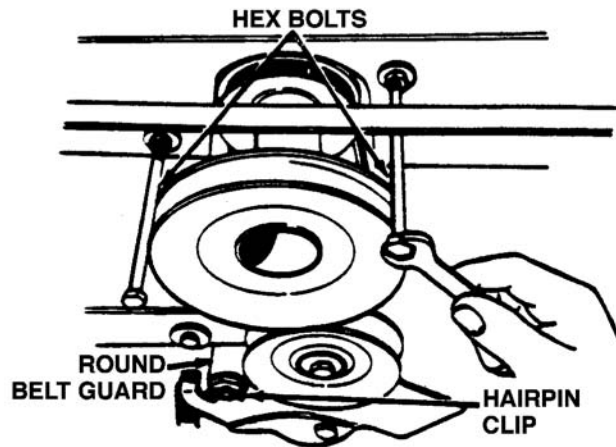

Figure 8-22. Removing Belt Guard
1. Working beneath the tractor, remove round belt guard from idler by removing hairpin clip. Remove two hex bolts which act as belt keepers by engine pulley. See Figure 8-22.